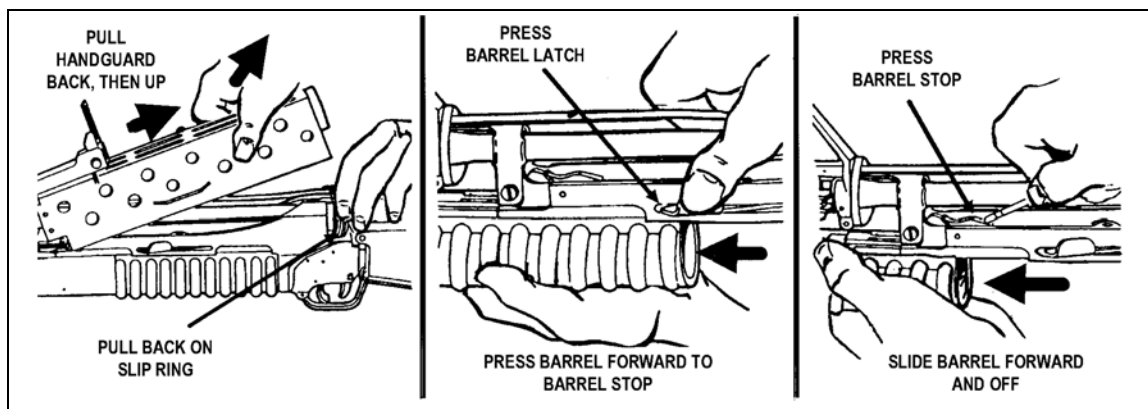

Figure 3-20. Removing the handguard assembly before the barrel assembly.
(2) **Handguard Assembly First.** Pull back on the M16's slip ring and remove the handguard by pulling it up and back. Push the barrel latch and move the barrel forward until it hits the barrel stop. Use a cleaning rod to depress the barrel stop and slide the barrel forward and off (Figure 3-20).